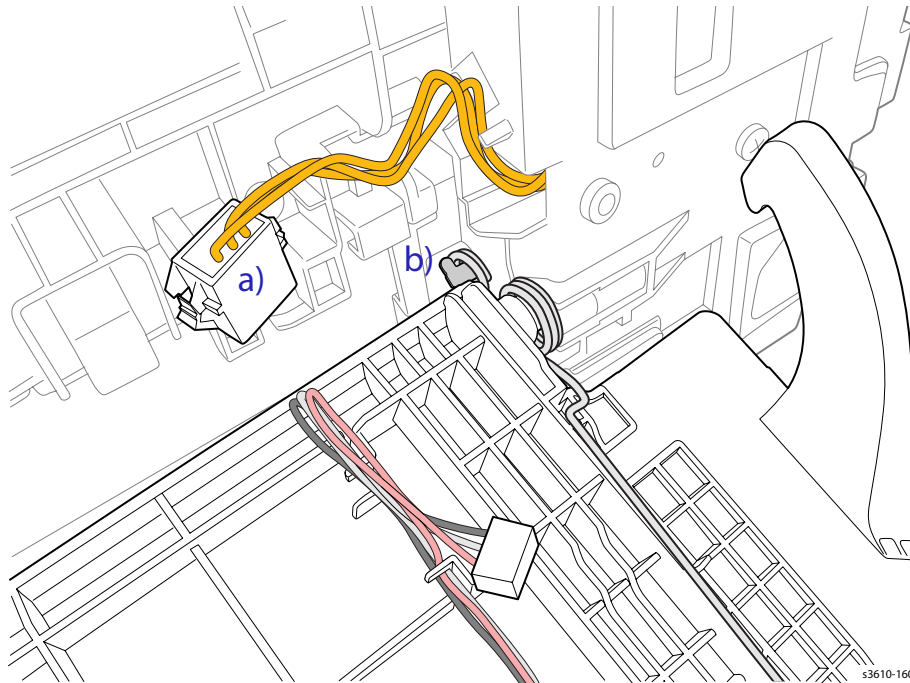

Figure 2
1. Re-install the cover assembly. (Figure 2)